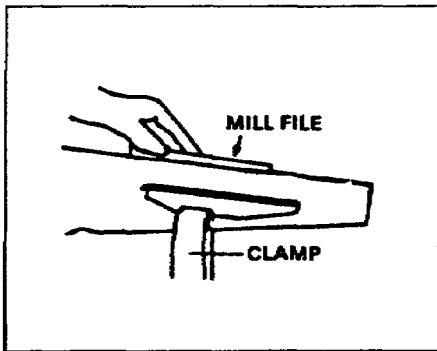

Figure 2-12. Jointing a saw
(1) Jointing. When a saw comes from the factory, the teeth are all uniform in size, length, bevel, pitch, and set. After being used and sharpened a few times, the teeth become distorted. When this occurs, they must be filed to a straight line. This operation is called *jointing* (Figure 2-12). When you joint a saw, place it in a saw vise with the handle to the left. Starting with the heel end of the saw, lay a flat file on top of the teeth and move it lightly along the top of the teeth. Do not top the file. Continue this operation until all teeth are even, with a slight crown at the top of each tooth. If you find that the teeth are too short, which would make them hard to set, file them to the proper shape before they are set.